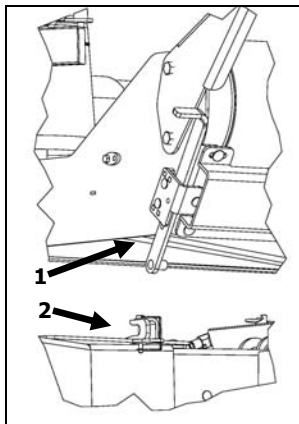

Figure 2.1 Attaching the turntable
Also attach the turntable's (Figure 2.1) L-shaped latch (1). Rotate the table as needed so that the latch faces the notch (2) at the front of the frame. Remove the latch pin. Slide the latch toward the notch and insert the latch shaft. Place the pin in the hole of the notch.
At start-up, your bale wrapper must be placed in the most horizontal position possible. Detach the turntable's L-shaped latch (Figure 2.1). If you have the stabilizer option, start the machine and pull the 2 levers of the control to put them in place (Figure 5.5). If the film roll is in place, check if the edge of the plastic is properly held by the clamp of the film cutter. If not, tighten the clamp around the plastic film by pulling the lever (Figure 5.5).
Your machine can be moved short and medium distances behind a tractor. Fasten the turntable latch (Figure 2.1). Attach the machine and attach a security chain to the ring provided for this purpose on the draw bar. On public roads, follow the traffic regulations of your region for agricultural machines, including those concerning the use of agricultural machines by minors.